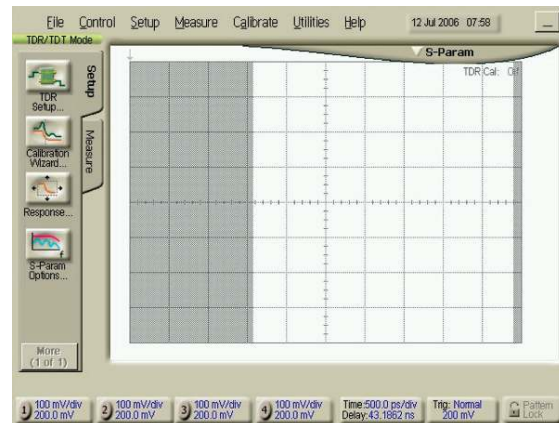

Figure 1. TDR Mode
- 1 Press the "TDR/TDT" button on the front panel to put the instrument in TDR mode. Figure 1 shows the instrument TDR screen.